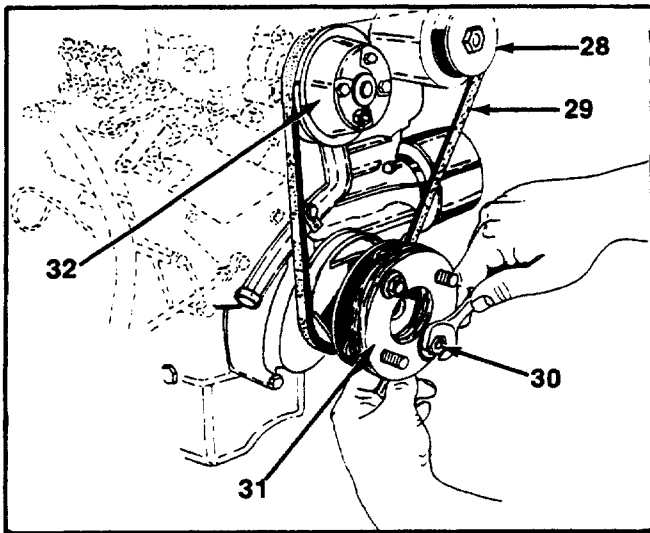

FIGURE 19.
17. Remove two hex nuts and flat washers from the flexible coupling, slide the flexible coupling from the drive shaft flange. See figure 19.